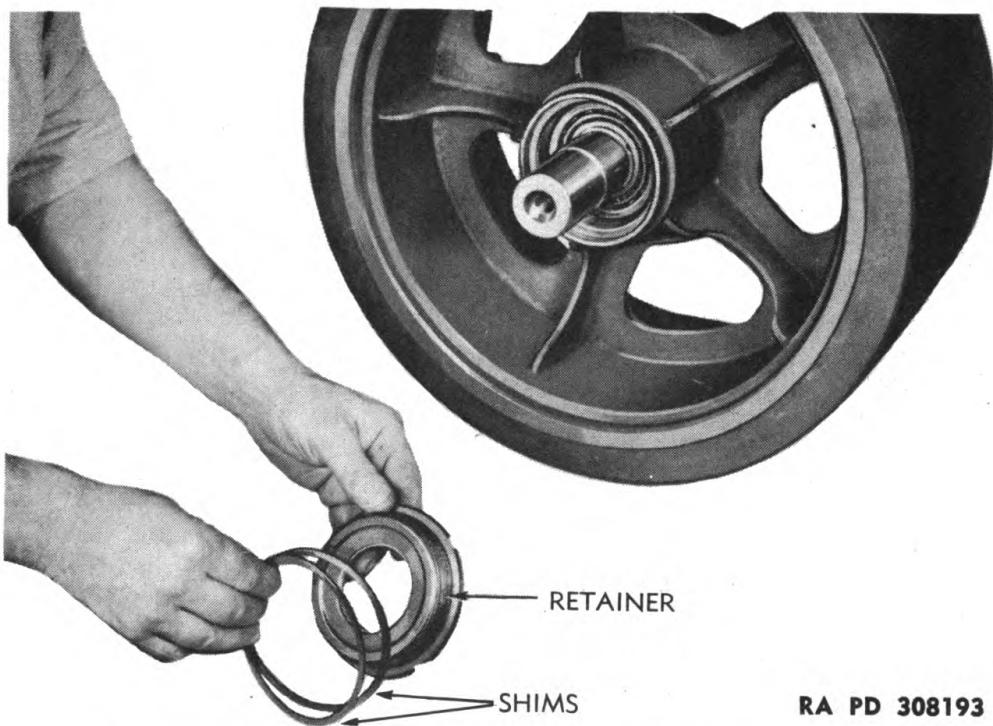
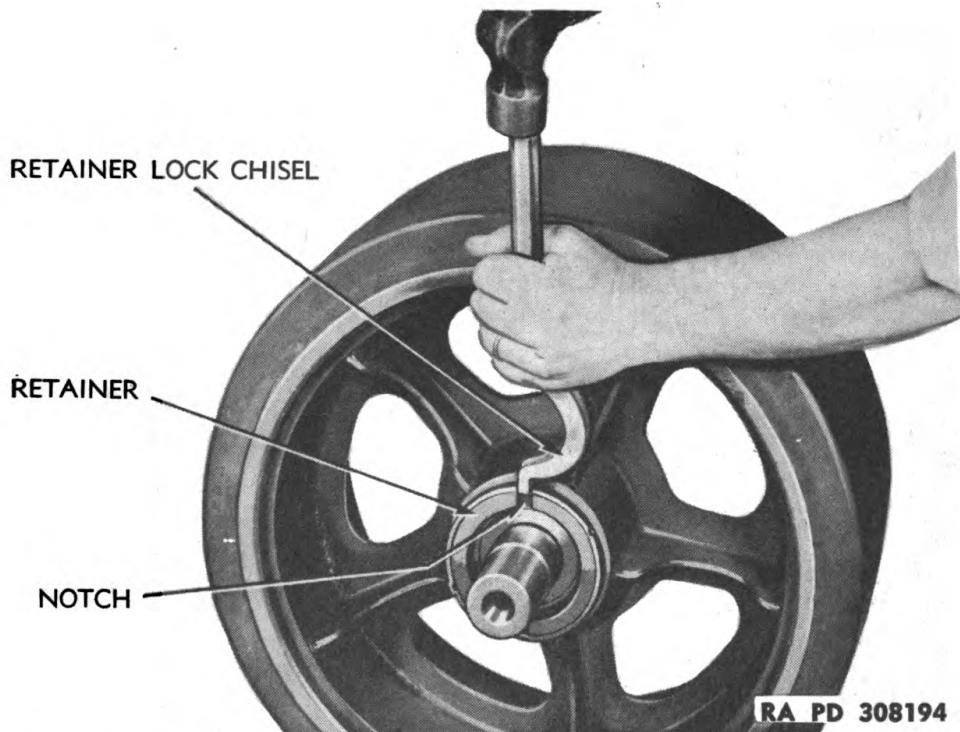

Figure 91 — Installing Shims on Bearing Retainer
Figure 92 — Locking Bearing Retainer, Using Tool (41-T-3380-30)
b. Install Bearing Retainers and Shims. Shims 0.0312, 0.010, and 0.007 inch thick are used in installation of retainers to allow for adjustment of bearings. Use the same shims that were removed with retainers if possible, if not, place shims equal in total thickness on both retainers (fig. 91) and screw retainers into hub. Tighten retainers with retainer wrench shown in figure 85 (par. 37 b). *NOTE: Be sure shims do not drop into threads of retainers during installation.* Rotate shaft by hand to test bearing adjustment. Bearings are correctly adjusted if there is no end play in shaft and a slight drag on bearings is felt when shaft is turned. Correct adjustment is made by adding or removing shims back of retainers. Both retainers must be tight when testing adjustment and retainers finally tightened by using hammer on handle of wrench after which bearing adjustment must again be checked. Secure retainers from loosening by bending edge of hub into slots in retainers with tool (41-T-3380-30) (fig. 92).